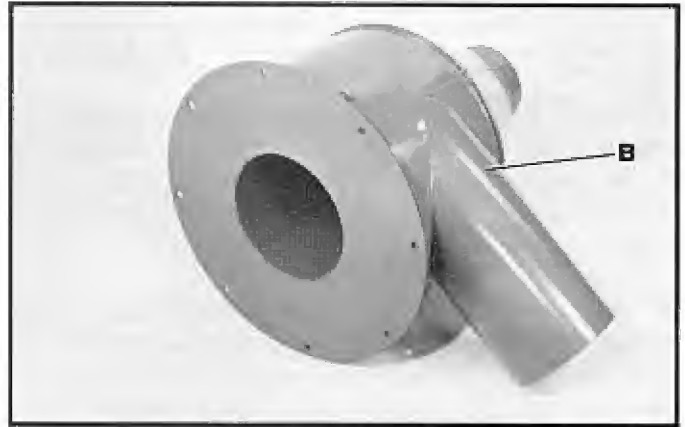

Fig. 3
1. Place cyclone separator (B) Fig. 3, on the floor or a sturdy supporting surface.